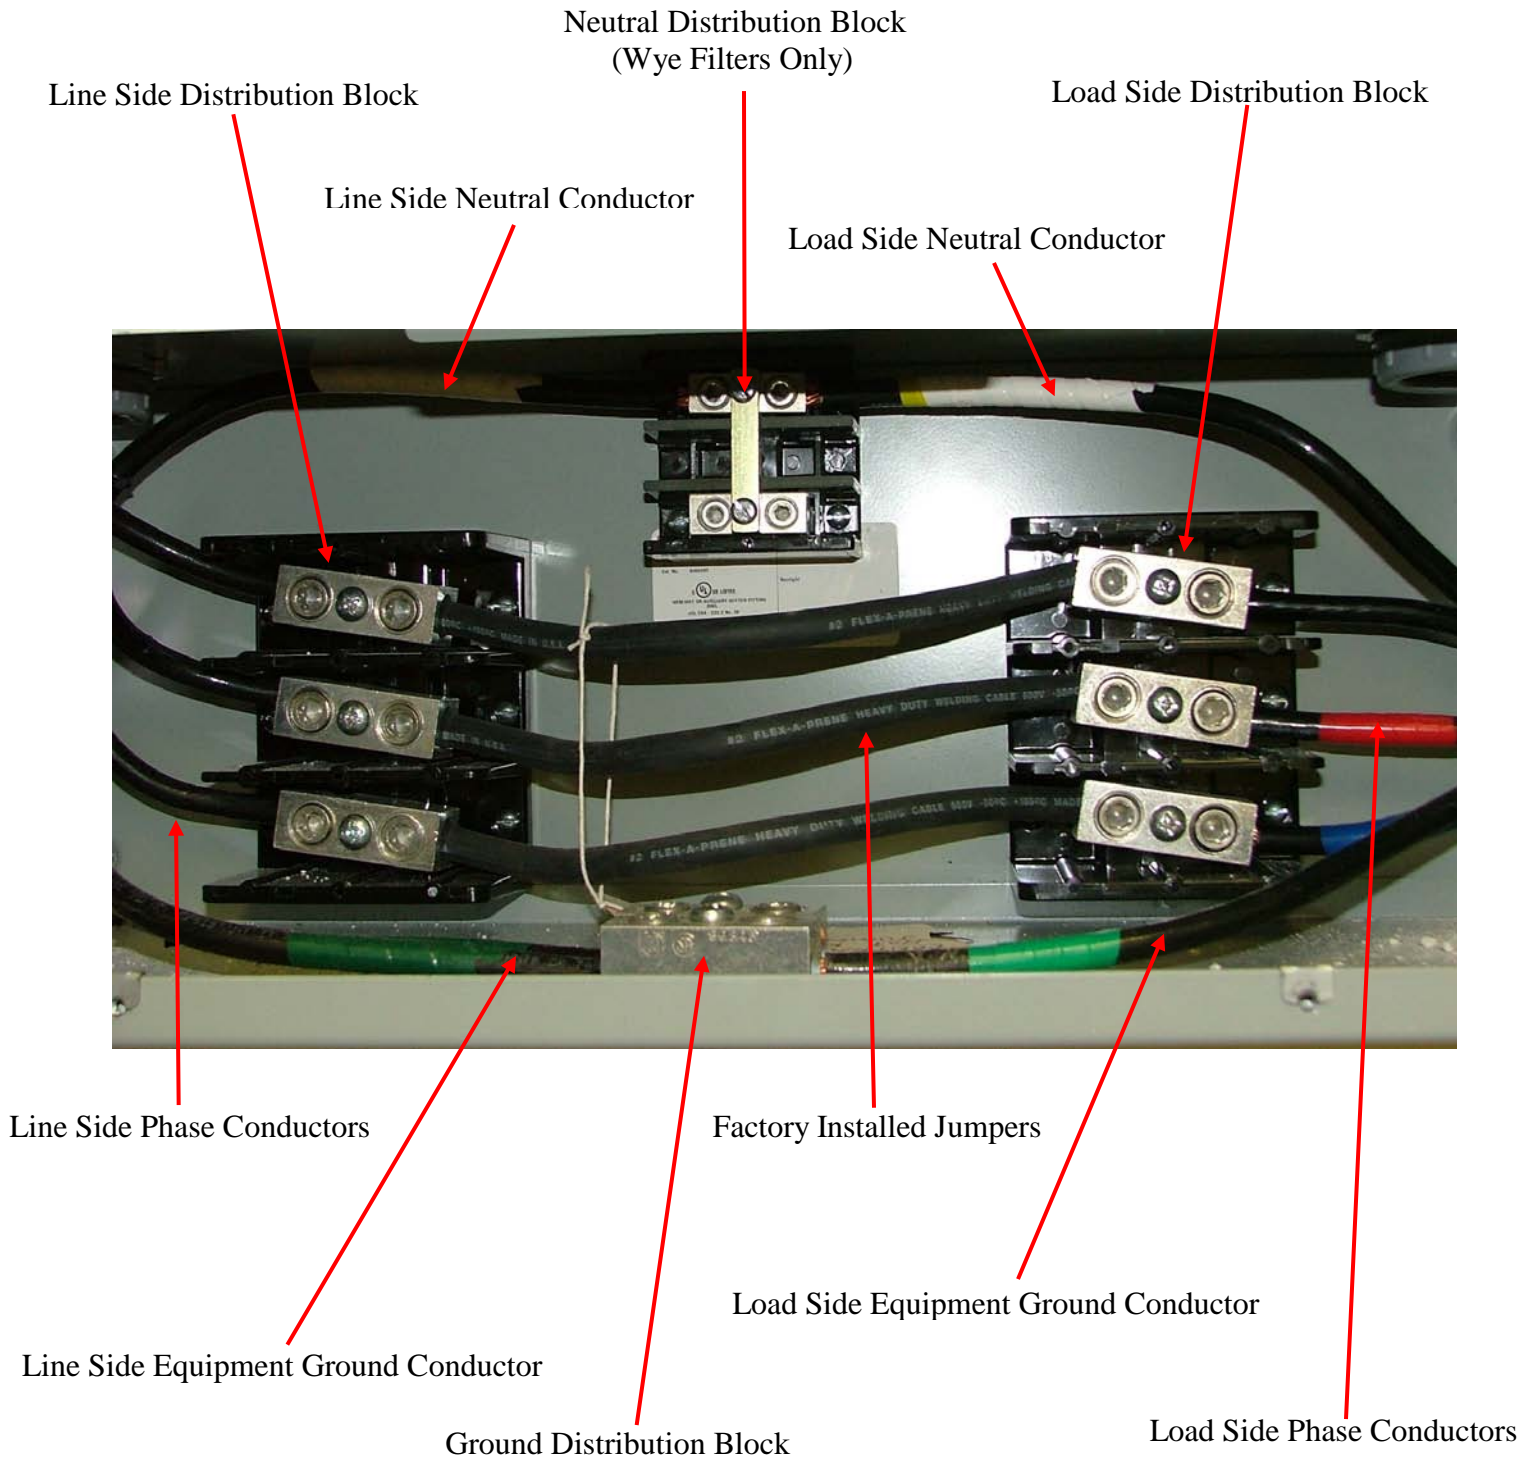

Figure 3
*****All connections are made within the Wireway Cabinet only (Figure 3)*****
7. Open the Wireway Cabinet (**Figure 3**).